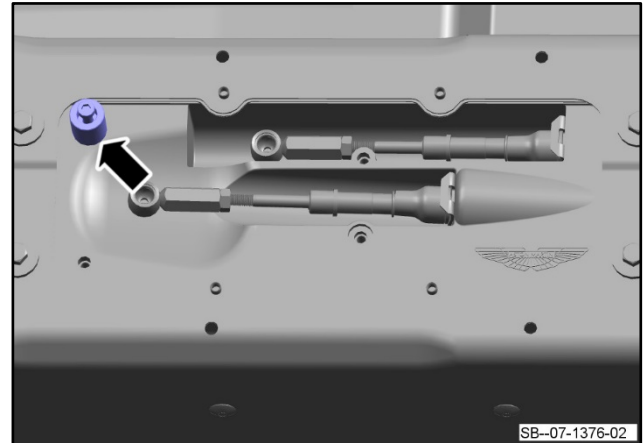

Figure 22
25. Position the extractor tool over one of the brass inserts and tighten the screw to pull the brass insert out of the base plate (refer Figure 22).